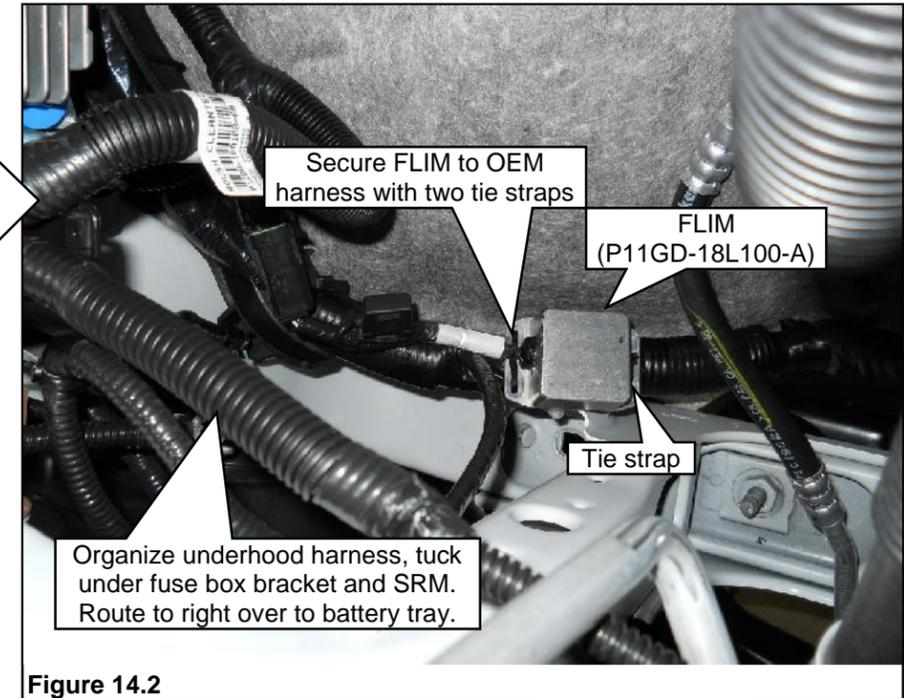

Figure 14.2
4. Plug in the fuel level interface module (FLIM) connector (and in-line fuse) to the underhood harness FLIM connection. Use two zip ties to secure the FLIM to the OEM wiring harness as shown. **Figure 14.2.**
5. Bundle the underhood harness toward the front of the inner fender down in the corner. Tuck the underhood harness under the fuse box bracket and SRM as neatly as possible. **Figure 14.2.**